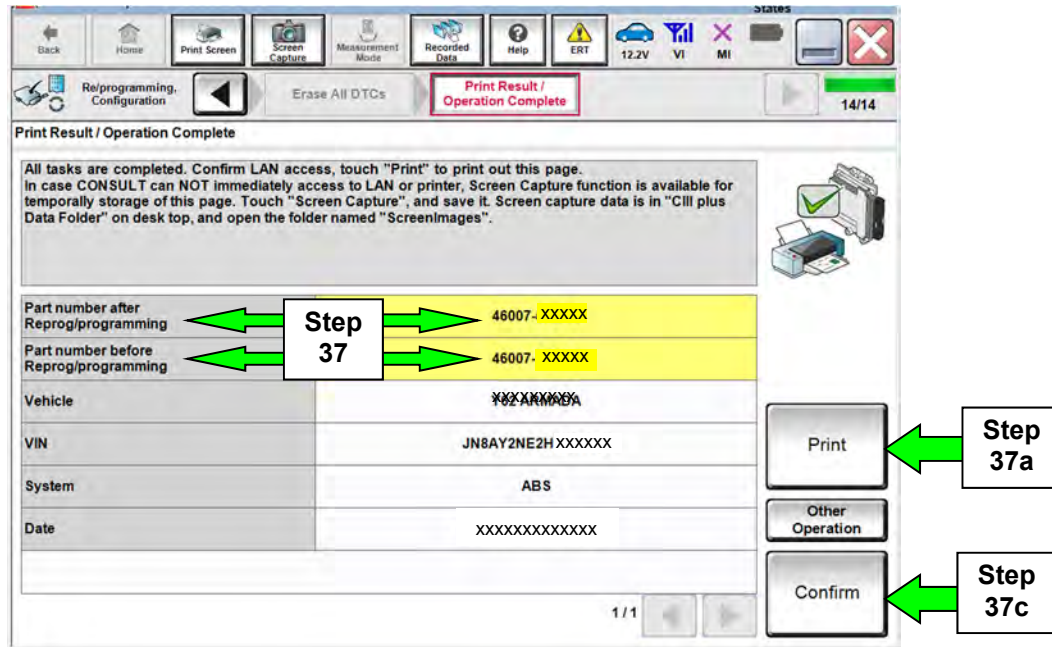

Figure 22
- Print a copy of the screen in Figure 22 by selecting **Print**.